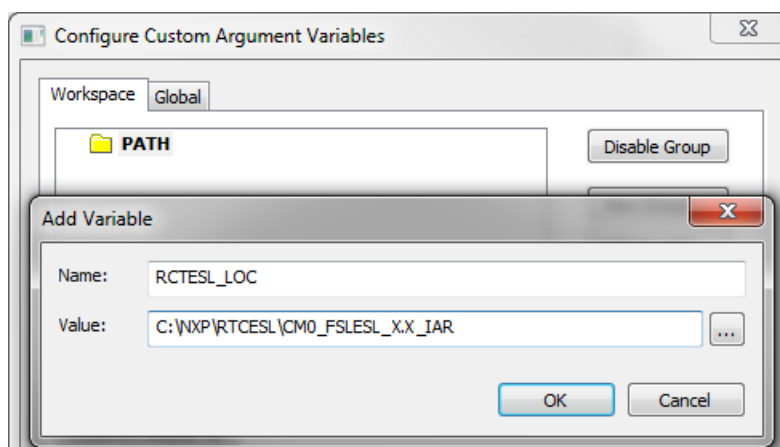

Figure 1-43. New variable
6. In the main dialog, click OK. See Figure 1-43.